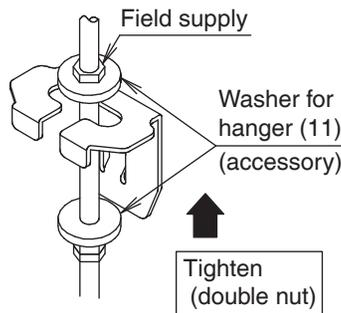

Fig. 6
(1) Install the indoor unit temporarily.
Make sure to securely fix the hanger with the nut and the washer for hanger (11) from the upper and lower side. (Refer to Fig. 6)